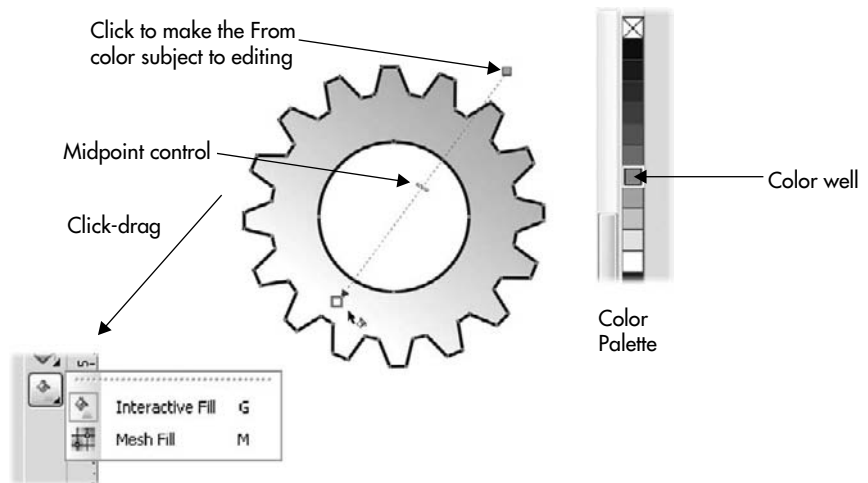

FIGURE 4-3 Use the Interactive Fill Tool to embellish your illustration.
4. Now let's say that the color transition between *From* and *To* in the Fountain Fill isn't dramatic enough, but you do like the two colors. Adjust the midpoint of the fill by dragging on the midpoint control, shown in Figure 4-3. You drag it toward the *From* color marker to emphasize the *To* color in the fill, and vice versa.